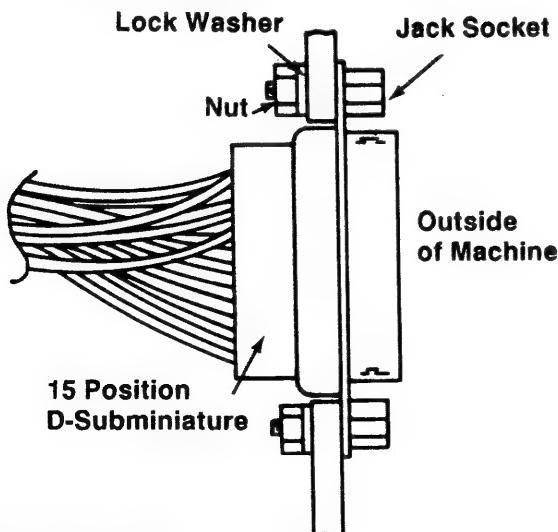

Figure 2-3.3B
- b. Install four PC Board Supports (Figure 2-3.3B).
- c. Install the Isolation Board (Figure 2-3.3B).
- d. Mate J102 to the connector on the left side of the board (Figure 2-3.3B).
- e. Mate J103 and J104 to the connectors on the right side of the board. (Figure 2-3.3B)
1. Remove the Lower Left Cover if necessary, remove J100 and J101 and replace the M3 x 6 Taptite Screws with the 4-40 Jacksocket Assemblies (item 16). See Figure 2-3.3B You may want to retap the hole before installing the Jacksockets.